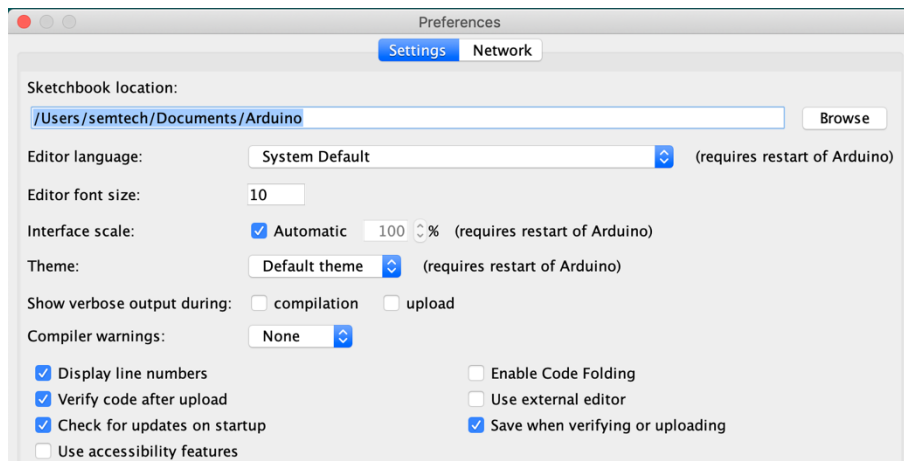

Figure 34: Arduino IDE settings screen showing Sketchbook location
- a. At the Arduino IDE menu select **Arduino > Preferences > Settings**, or **File > Preferences** on Windows and Linux. Locate the Sketchbook location field (see Figure 34), we will refer to this as <path to sketchbook location> On MacOS or Windows the default location is in your documents; **/Users/<username>/Documents/Arduino**, or **D:\Users\<username>\Documents\Arduino** respectively. On Linux the default location is **/home/Sketchbook**.